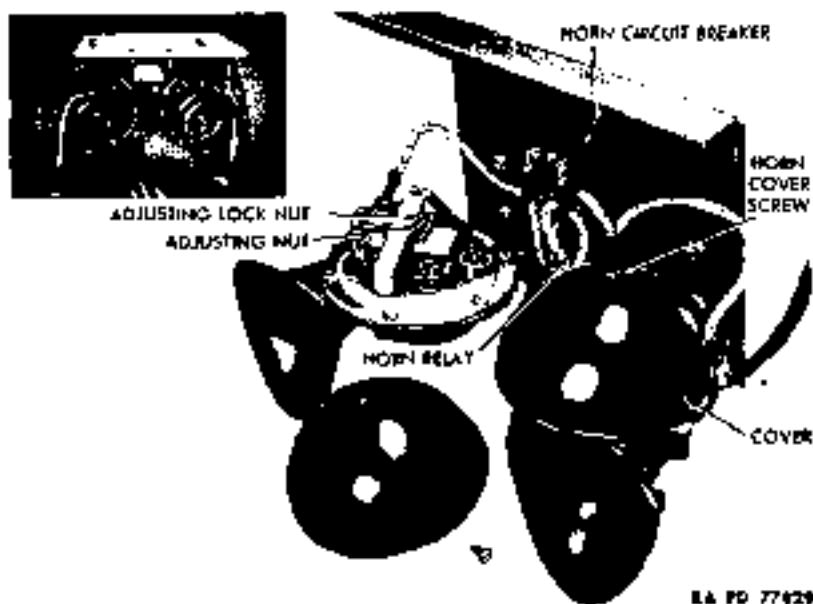

Figure 103 — Twin Horns
(1) **DESCRIPTION** (fig. 103). Two vibrator-type twin horns are mounted on the cab beneath the battery box. The high pitch of one is
(1) DESCRIPTION (fig 103). A standard magnetic relay switch is attached to the horn support bracket between horns, and serves to supply current directly from ammeter to horns when the horn button is depressed.
(2) TABULATED DATA.
are attached to cranking motor switch bracket under floor board in front of operator's seat (fig. 51); buzzer and fuel gage circuit breaker are attached to center of cowl over generator regulator (fig. 49); horn circuit breaker is attached to horn supporting bracket above horns (fig. 103); light circuit breaker is an integral part of the regulator which is attached to cowl dash at center (fig. 49). All circuit breakers are of the thermal type. Heat produced by passage of excessive current due to a short circuit causes breaker to open and close intermittently until the short circuit is eliminated.